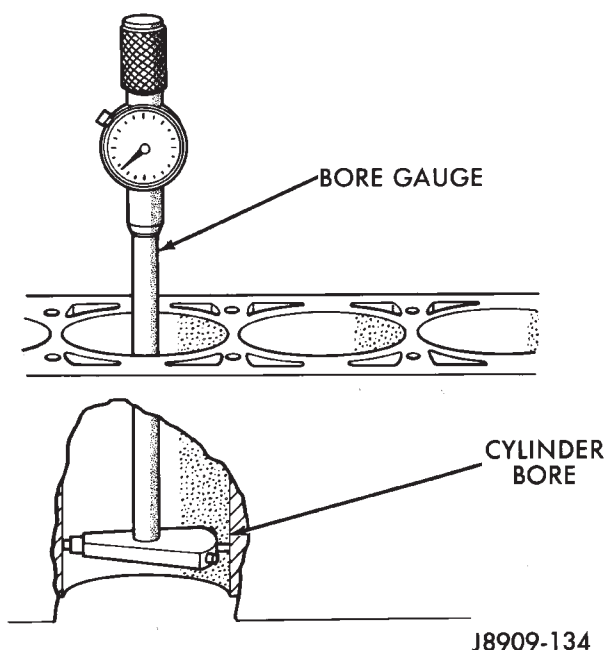

Fig. 9 Cylinder Bore Measurement
(1) Use a bore gauge to measure each cylinder bore diameter (Fig. 9). If a bore gauge is not available, use an inside micrometer.
(2) Measure the cylinder bore diameter crosswise to the cylinder block near the top of the bore. Repeat the measurement near the bottom of the bore.
(3) Determine taper by subtracting the smaller diameter from the larger diameter.